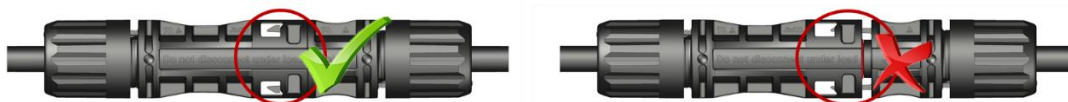

Figure 11: Schematic Diagram of Correct/Incorrect Engagement of Connectors
- Before connecting the male and female connectors, ensure that the contacts are free of corrosion, clean, and dry, and check the wiring status. When connecting, insert the male and female connectors until they engage, then gently pull to check if the engagement is secure. The correct/incorrect engagement visual diagram is shown in Figure 11 (for reference only; the actual connectors shall be based on the ones received on-site).